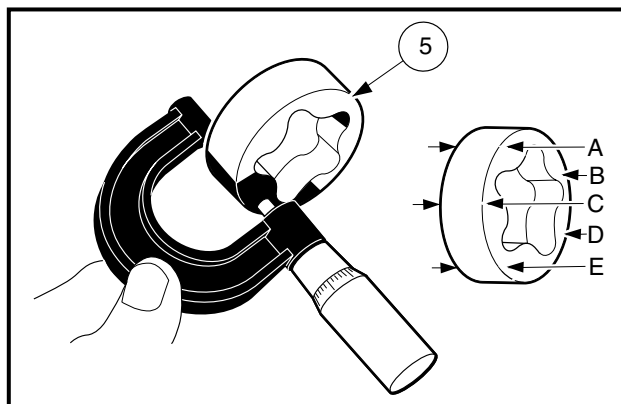

Figure 2-63 Measure Thickness of Outer Rotor
- 4.4. Use a micrometer to measure the thickness of the outer rotor (**Figure 2-63, Page 2-29**).